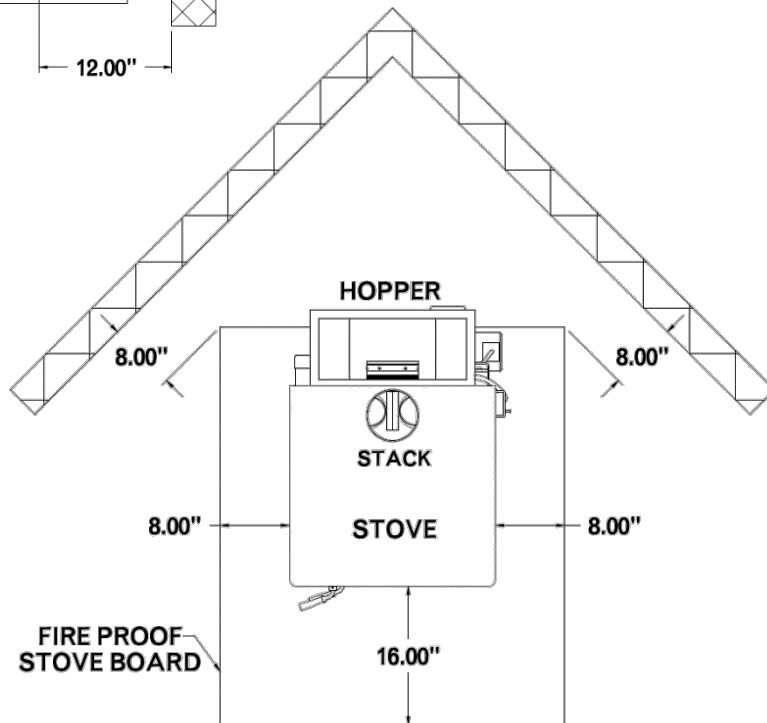

FIGURE 1
1. Select a position on a solid level surface with direct access to a chimney. On non-masonry floors, use an approved fireproof floor protector under stove. Maintain 12" clearance on sides of stove to combustibles. A 2" clearance on rear and 16" clearance on front of stove. Clearance from corners of stove is 8". See label on stove. Refer to Figure 1.